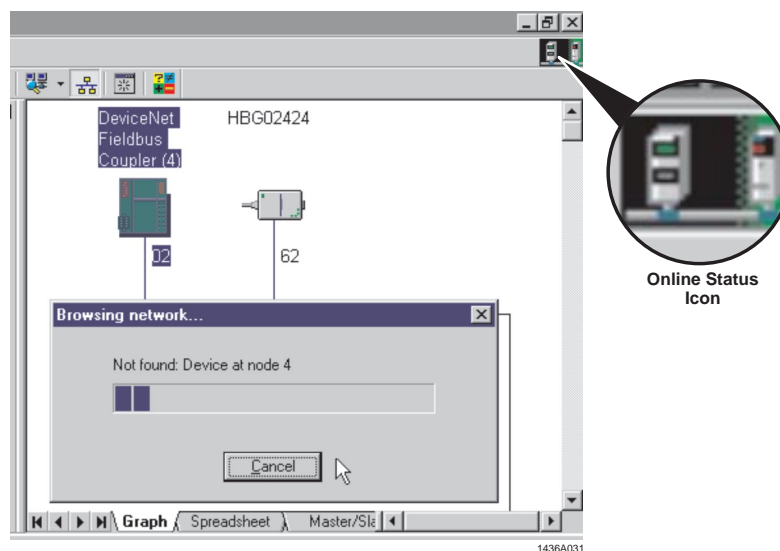

Figure 3-4. Network Browse Results
3. Once the driver is selected, click OK. The network browse will start. Make sure the connection status icon shows a moving on-line connection. See Figure 3-4.
4. Wait for the browse operation to be completed. In our example, the network shows both the icon for the KFD module and the icon for the DeviceNet™ bus coupler. See Figure 3-4. Note the last valid node address setting for the bus coupler (in our example) is 2.
3. Once the driver is selected, click OK. The network browse will start. Make sure the connection status icon shows that there is a moving online connection. Refer to Figure 3-4.
4. Wait for the browse operation to be completed. In our example, the network shows both the icon for the KFD module and the icon for the DeviceNet™ bus coupler. Refer to Figure 3-4.